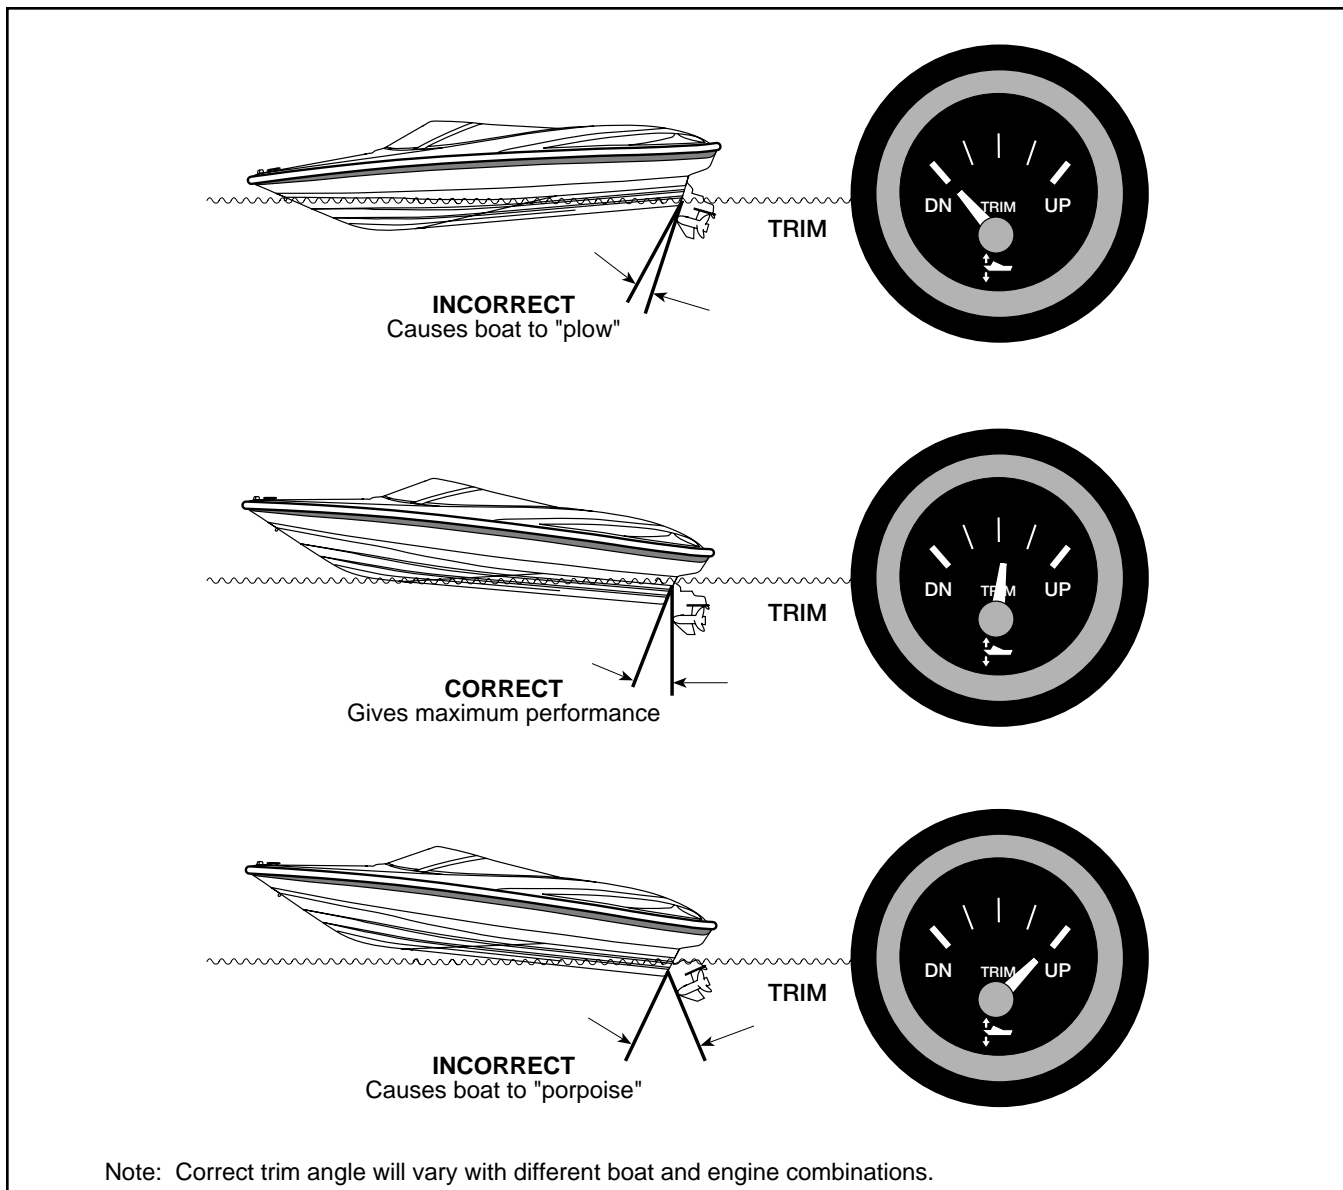

FIGURE 7.2 TRIMMING THE BOAT OUTDRIVE
3. In the case of low or heavy bow attitude, the boat tends to "plow" (**Figure 7.2**). The lower unit is trimmed too far under or forward. Trim the unit UP (out) to correct this situation.
4. If the bow is too high, the boat tends to "porpoise" (**Figure 7.2**). The drive unit is trimmed up or out too far. Trim DN (in) to correct.